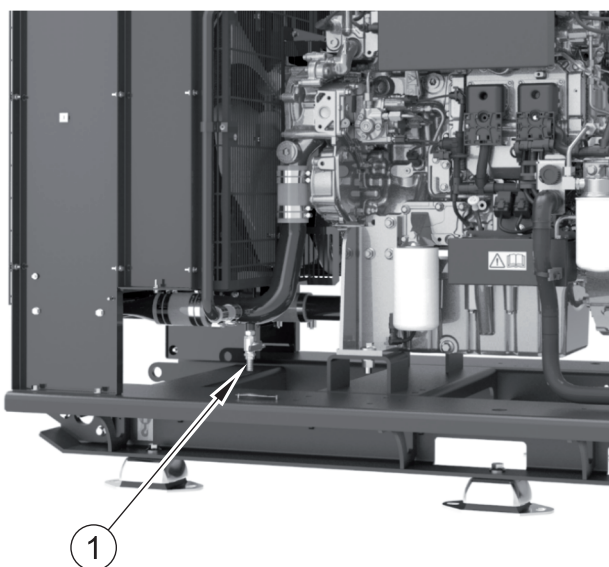

Figure 5
2. Rotate the tap to the open position (figure 5 item 1).